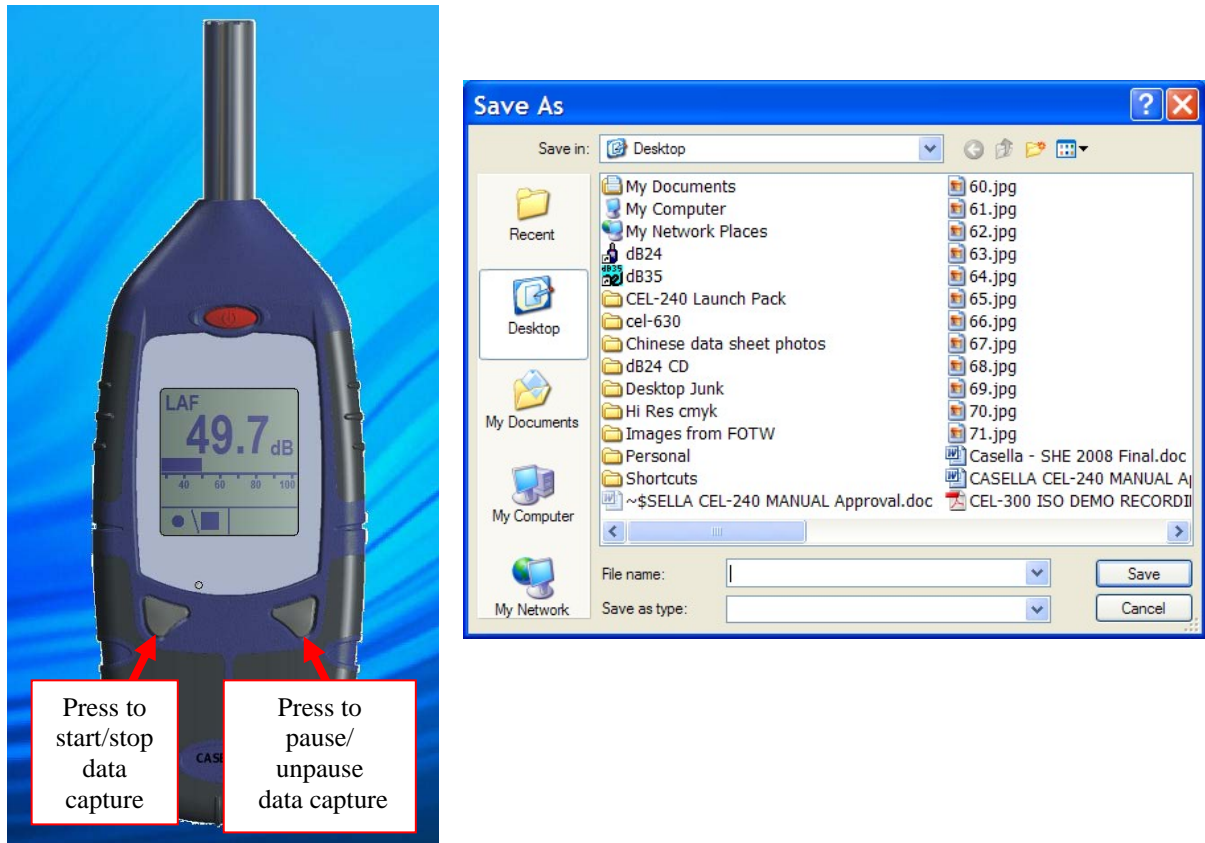

Figure 3: 'Save As' Window
3. A 'Save As' window is displayed. Select a suitable file name and location and press Save. (Figure 3). A red indicator on the virtual CEL-240 will flash during data capture.